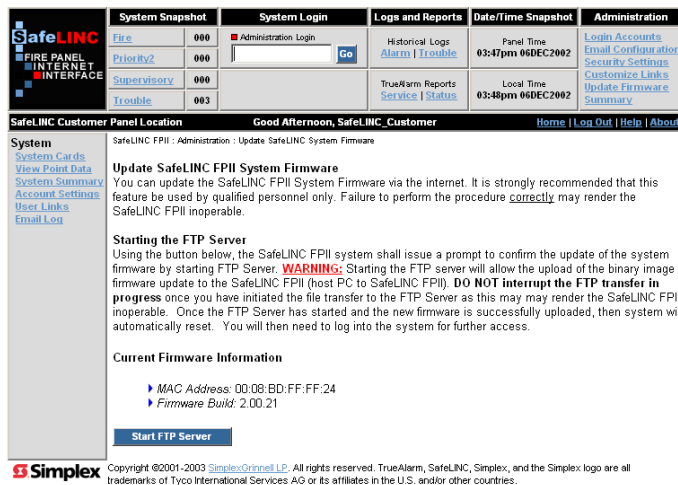

Figure 39. Start FTP Server Verification Screen
3. Now click the Start FTP Server. You should obtain the screen shown in Figure 39.